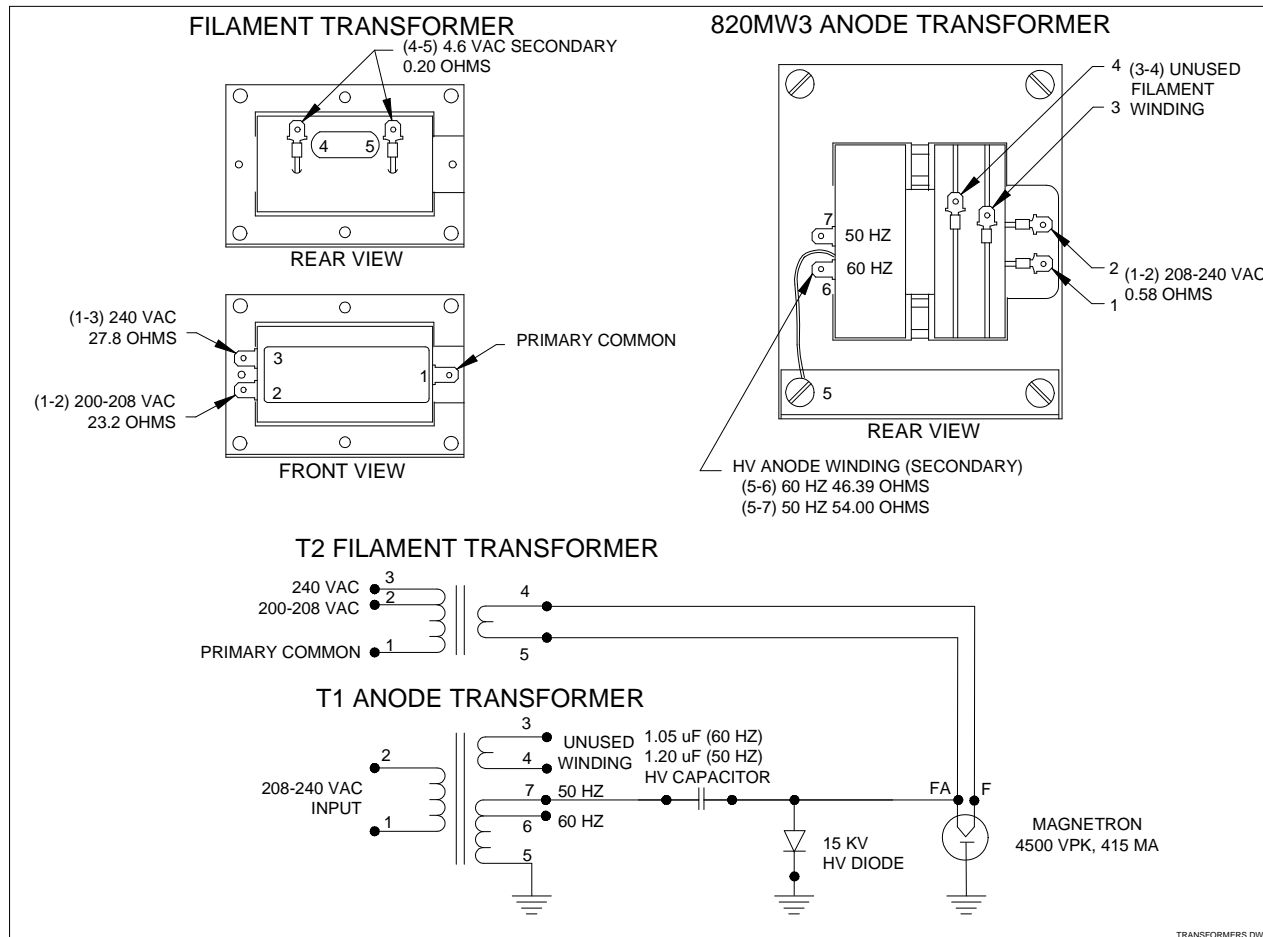

FIGURE 9-4 Transformer Testing
3. Check impedance of the primary and secondary windings. See TABLE 9-1 AND FIGURE 9-4.